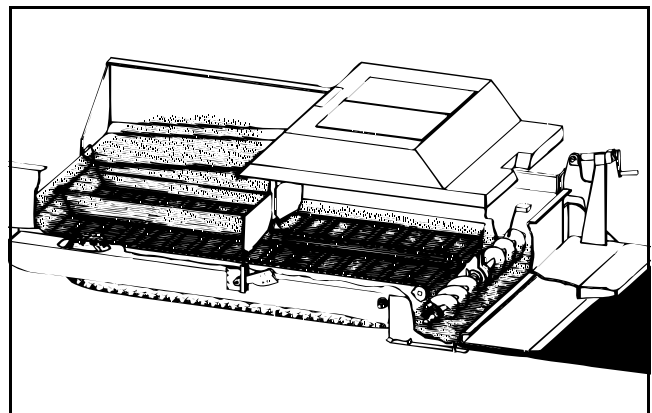

Figure 3 - 54 Shaded areas to be sprayed down daily
- 3) Start cleaning at the truck hook/push rollers and work your way to the rear of the machine cleaning the hopper wings, slat conveyors/remix augers, hopper gates, spreading augers, screed bottom, end gates, strike-offs, etc. (Figure 3 - 54)